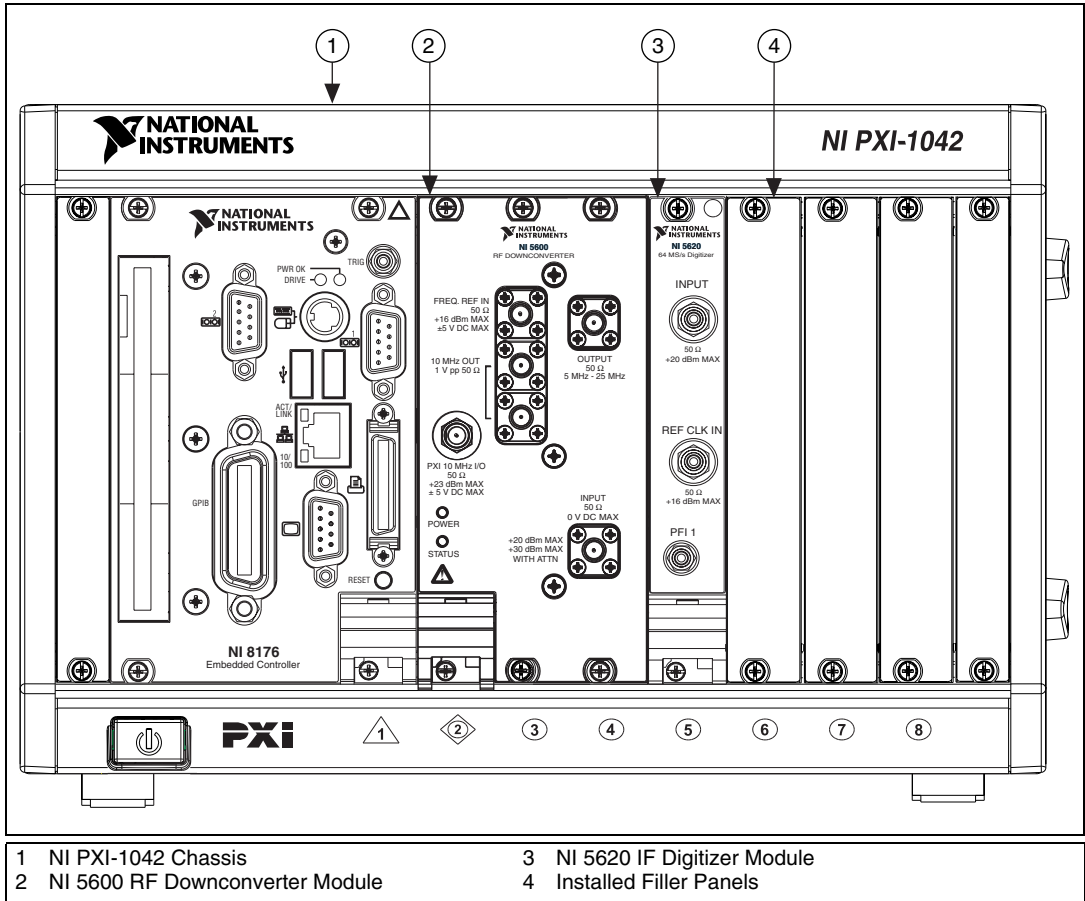

Figure 1-5. Recommended Installation Includes all PXI Filler Panels
- Install all chassis covers and filler panels after installing the RF Vector Signal Analyzer hardware modules, as shown in Figure 1-5. Missing filler panels disrupt necessary air circulation in the chassis.